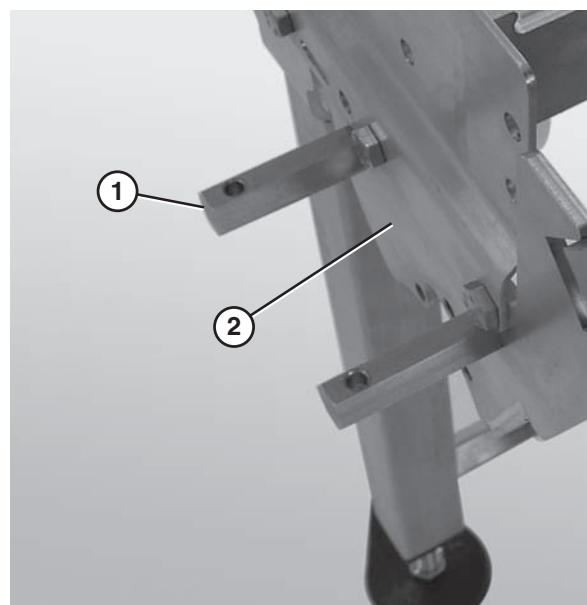

Figure 41
1. Attach the gear reducer mounting posts (**Figure 41, item 1**) to the nose bar side plate (**Figure 41, item 2**).